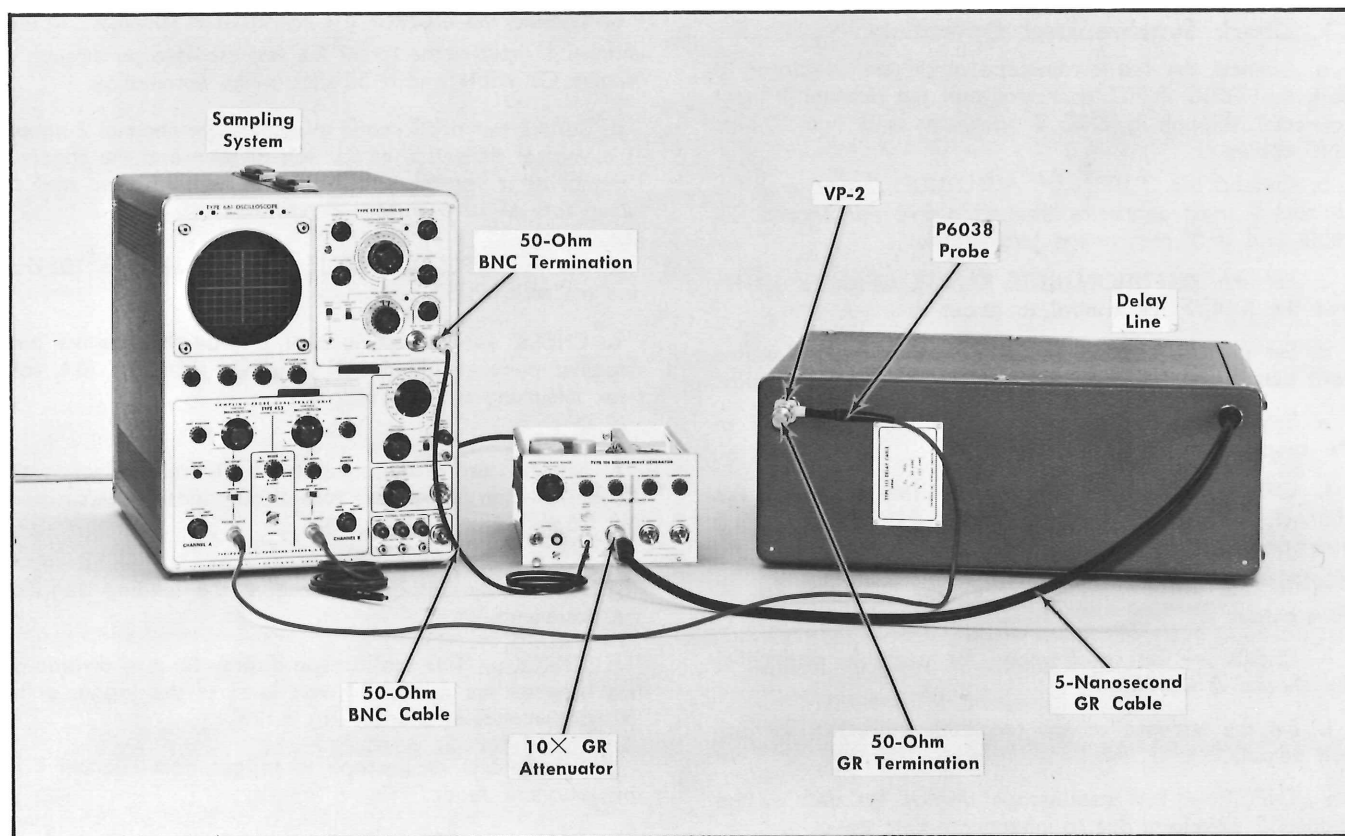

Fig. 6-13. Initial test equipment setup for steps 13 — 16.
- Test equipment setup is shown in Fig. 6-13.